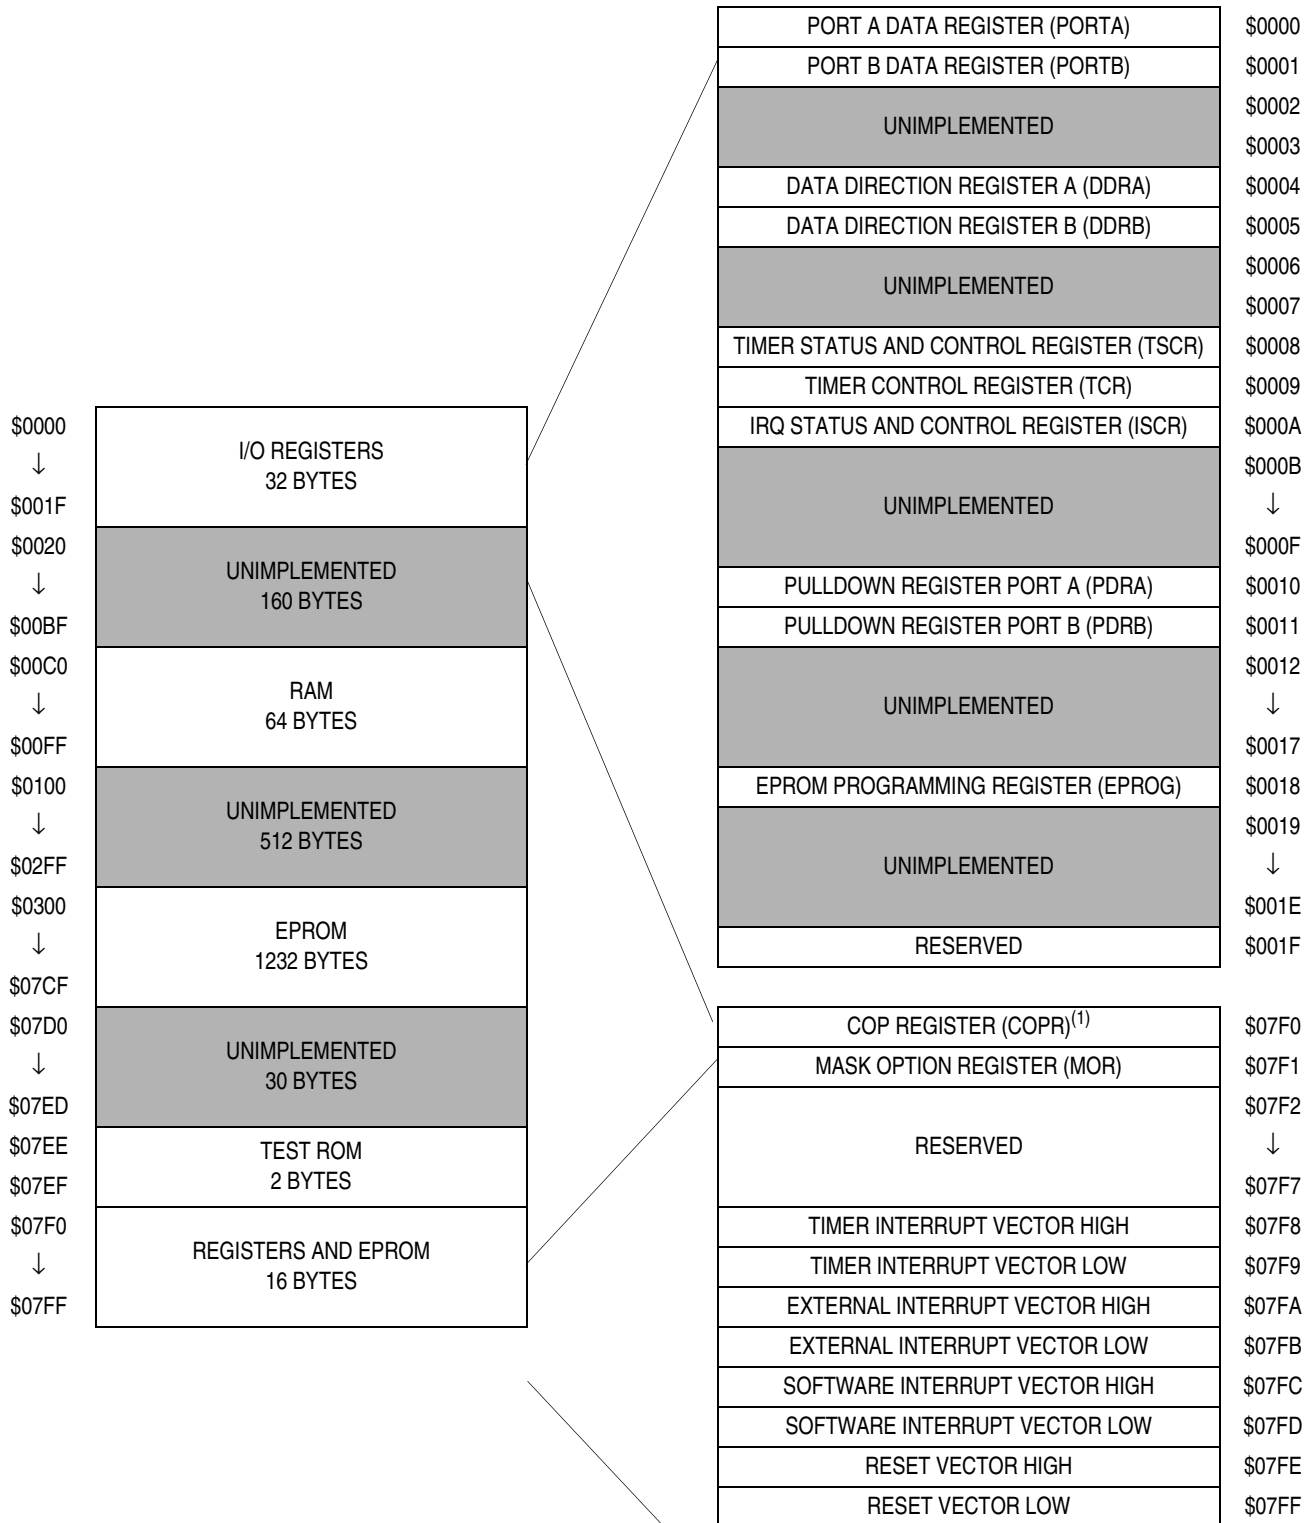

Figure 2-1. Memory Map
- Memory map (Figure 2-1)
See Figure 2-1.